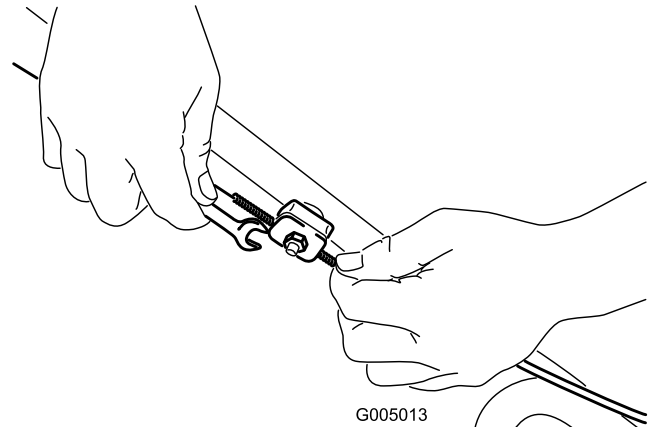

Figure 34
1. Loosen the cable support nut (Figure 34).